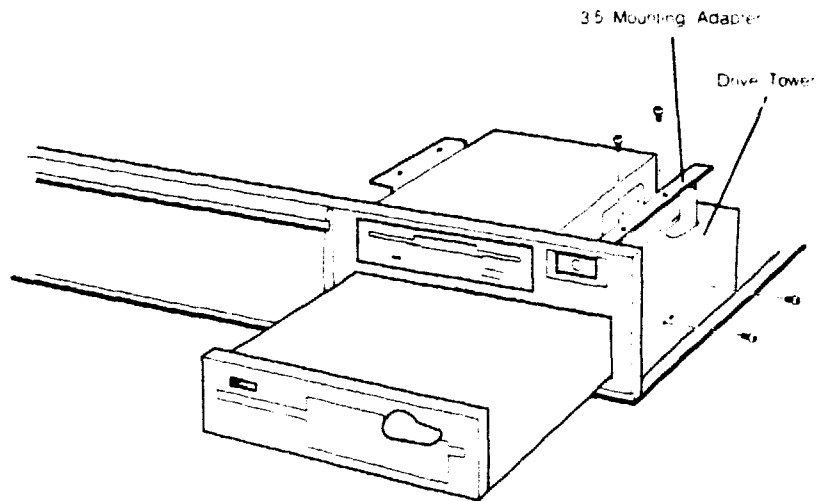

Figure 6.10: 3.5" Diskette Drive Installation
- 4 Keeping the drive unit flat, slowly slide it into the drive tower until the holes on the drive and the drive tower are aligned. Once in position, secure the drive with the screws provided. (See Figure 6-10)